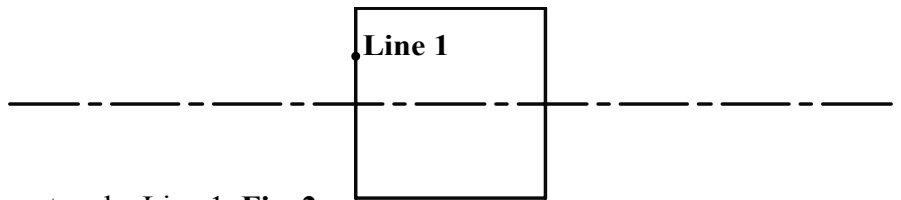

FIG. 2
Step 11. Click the vertical line of the rectangle, Line 1, **Fig. 2**.